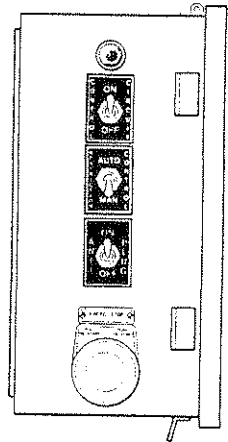

Fig. 33 ANTI-PLUG switch to ON
1. **ANTI-PLUG ON** Move the CONTROL CIRCUIT and ANTI-PLUG switch to ON (fig. 33). Allow the plunger to attempt to complete its stroke.